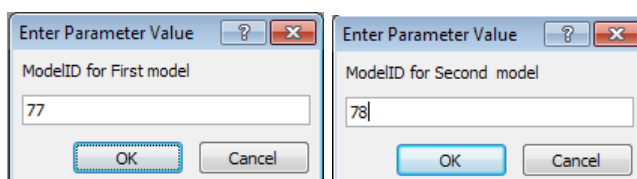

Figure 18 - Enter ID for first model and second model
2. Run the Compare Models feature. Enter the Model ID for the first and second model respectively. (Figure 18)